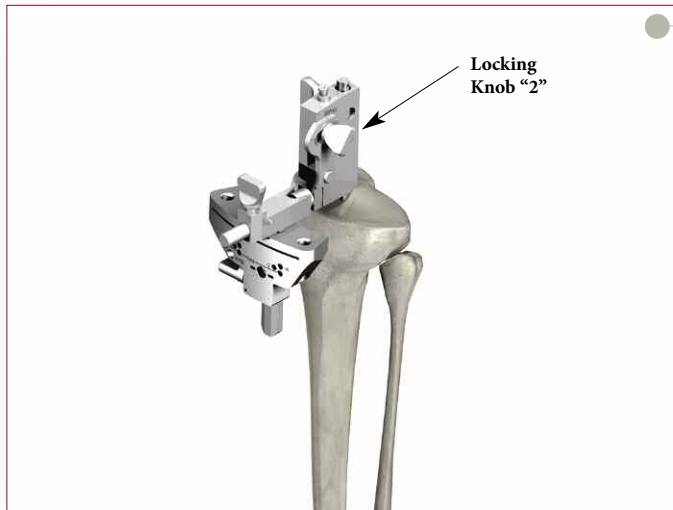

Figure 64
- If additional posterior slope is required, loosen Locking Knob "2" and set the slope. Once the correct slope is attained, securely tighten Locking Knob "2" to set the final position of the jig (Figure 64).